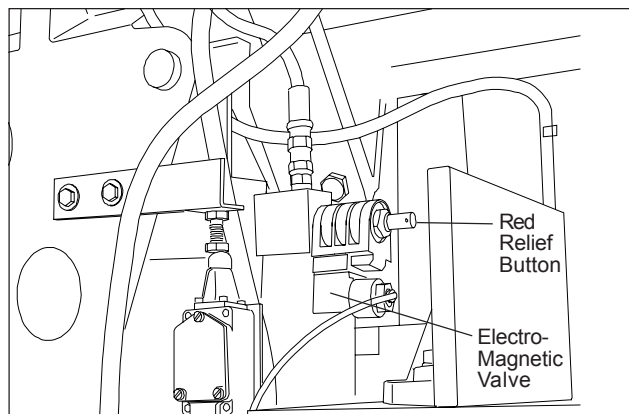

Figure 6: Lowering head with power off
5. A red release button on the electro-magnetic valve provides a means to lower the saw head when power to the machine has been disconnected (see figure 6).
4. To lower the saw head with power off, pull and turn the red knob (manual override) on the electro-magnetic valve (see figure 6).